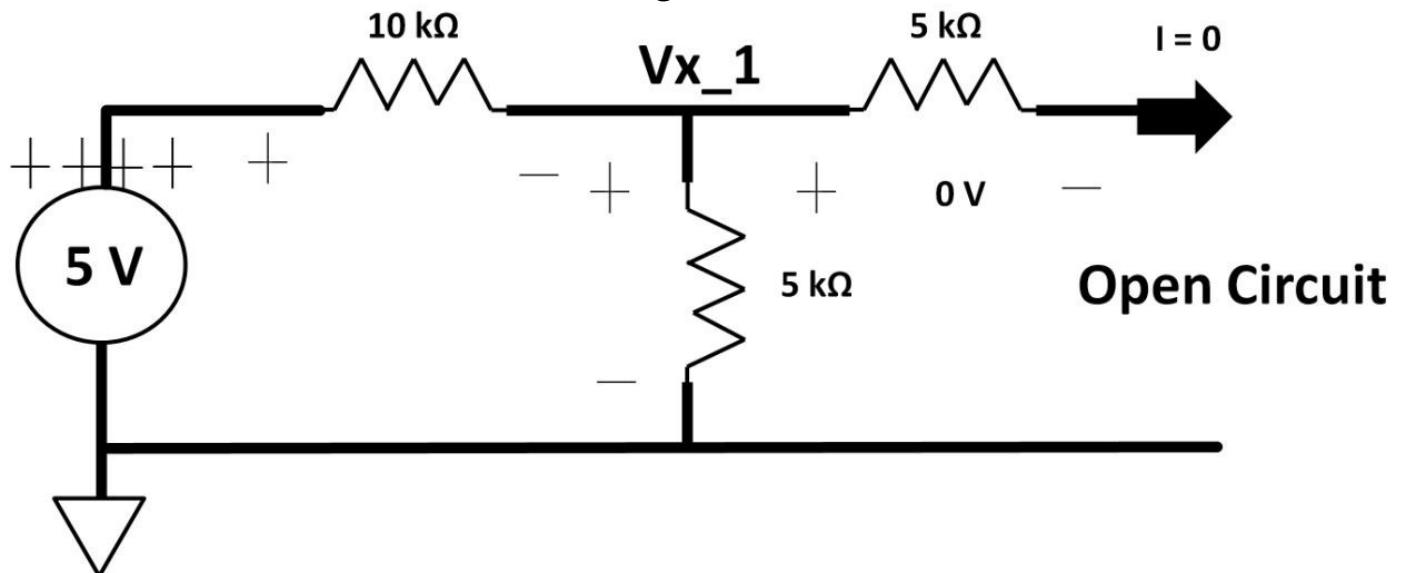

Figure 1.19: Superposition circuit 1
2) Start with the voltage source on the left; force the current source open. Then calculate V_{x_1} . The individual circuit is shown in figure 1.19.